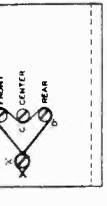

FIG. 4
- NOTE: Four adjusting screws extend upward through the switch mounting plate, three of them in line, and one set off by itself. (See Fig. 4).